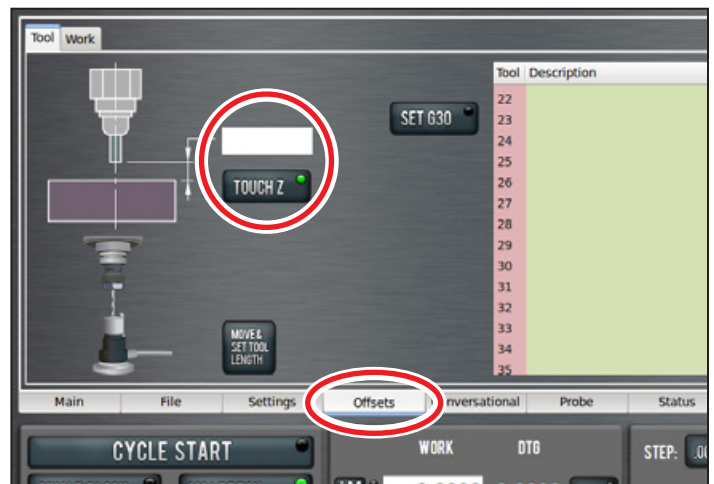

Figure 5.8
3. On the *Offsets* tab, enter 0.0 in the touch DRO and click the *Touch Z* button (see **Figure 5.8**). If you were not touching on the top of the workpiece, but instead using a feeler gauge or piece of paper between the workpiece and the tool, you could enter the thickness of the gauge or paper in the touch DRO before clicking *Touch Z* to account for the gauge thickness.